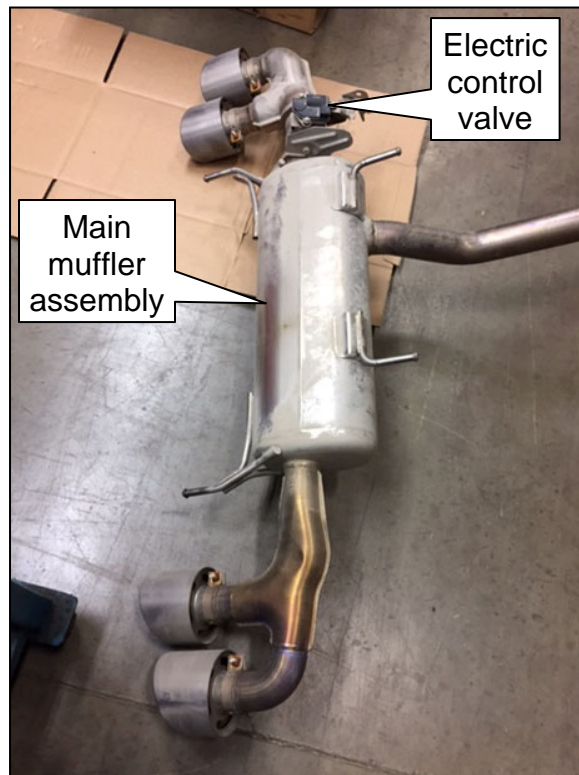

Figure 1
5. Remove the main muffler assembly (Figure 1).